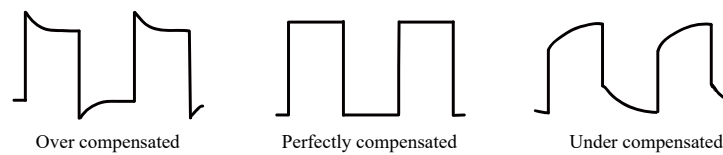

Figure 5.7 Probe Compensation
2. Check the displayed waveforms and compare them with the waveforms shown in *Figure 5.7*.